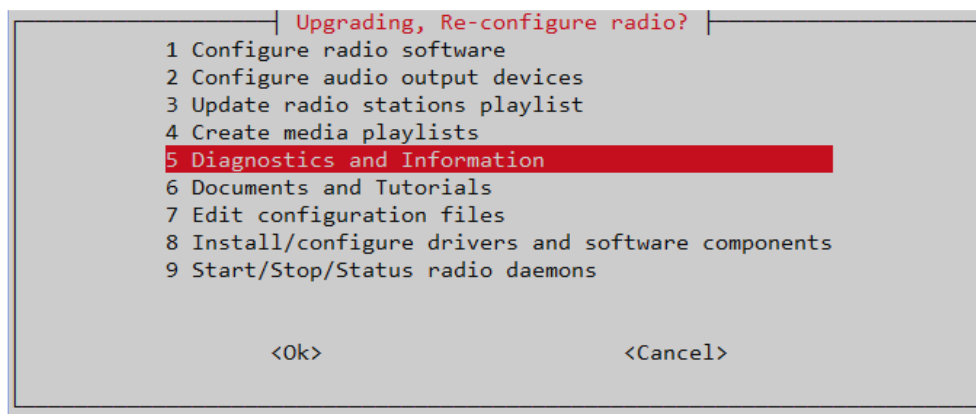

Figure 259 Diagnostics and Information menu
- Select option **1 Run the radio in diagnostic mode (nodaemon)** shown in *Figure 259 Diagnostics and Information menu* on page 219.
- Select option **2 Test rotary encoders** from the diagnostics menu. shown in *Figure 259 Diagnostics and Information menu* on page 219.